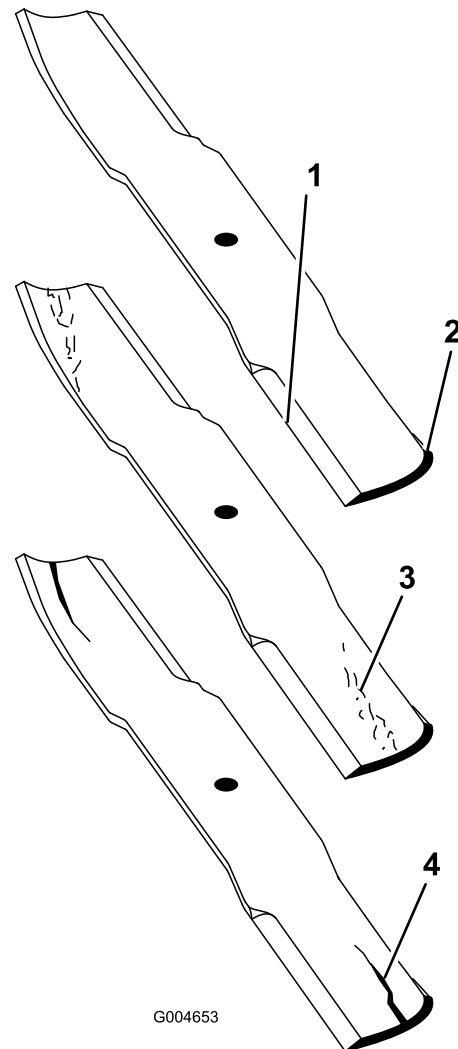

Figure 117
2. Examine the cutting ends of the blade carefully, especially where the flat and curved parts of the blade meet (Figure 117).
Note: Because sand and abrasive material can wear away the metal that connects the flat and curved parts of the blade, check the blade before using the mower. If you notice wear (Figure 117), replace the blade.